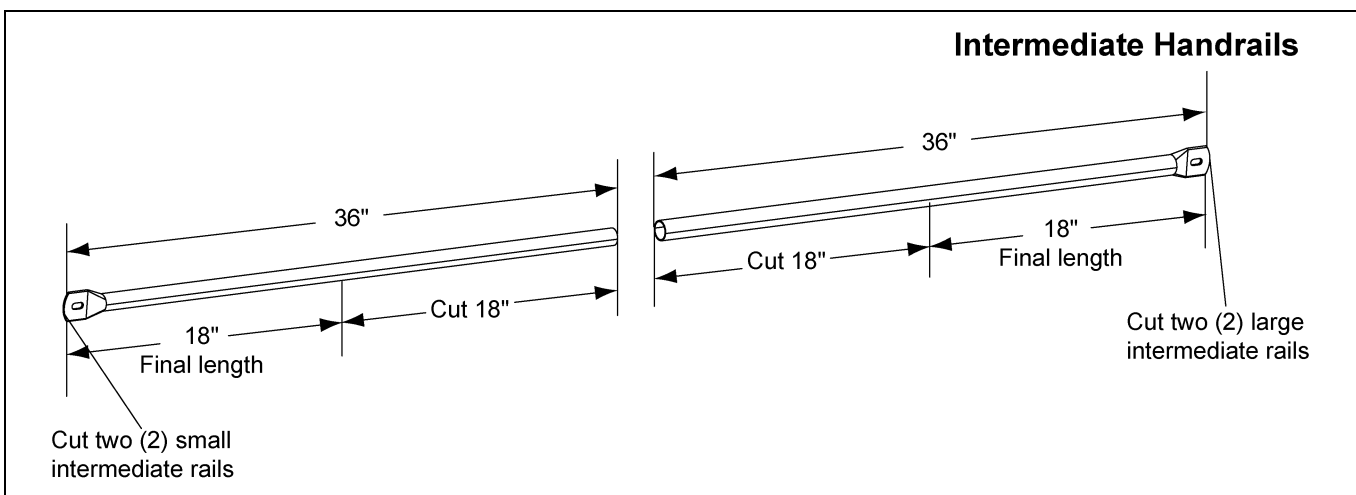

Figure 7I
4. Assemble the intermediate handrails by sliding the small handrail into the larger handrail to create a telescoping handrail that can be adjusted to the correct length between the posts. Two (2) of the small intermediate handrails and two (2) of the large intermediate handrails will need to be cut to fit. The starting length of each rail is 36". Cut 18" off the end of each rail so the final length of each rail is 18". (See Figure 7I.)